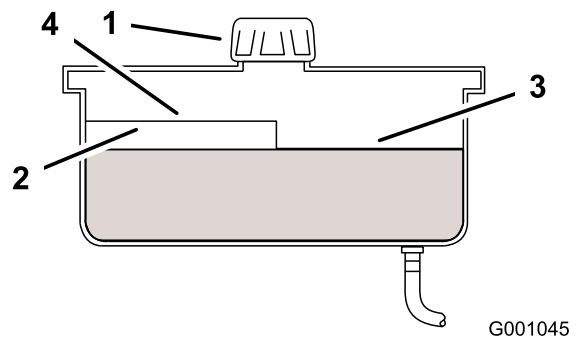

Figure 59
4. Clean area around cap and filler neck of hydraulic tank (Figure 59).
5. Remove cap from filler neck. Look inside to check the fluid level in the reservoir. (Figure 59).
Note: The fluid level should be to the top of the hot level of the baffle, when the fluid is warm (Figure 59).